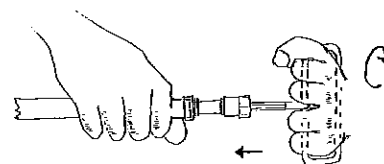

Figure 5
4. Using a 1/4" T-Handle Allen wrench and while holding hose in hand as shown in Figure 5, install male stem by pressing firmly, turning clockwise with the wrench. Continue turning until hose cap is approximately 1/32" from swivel.